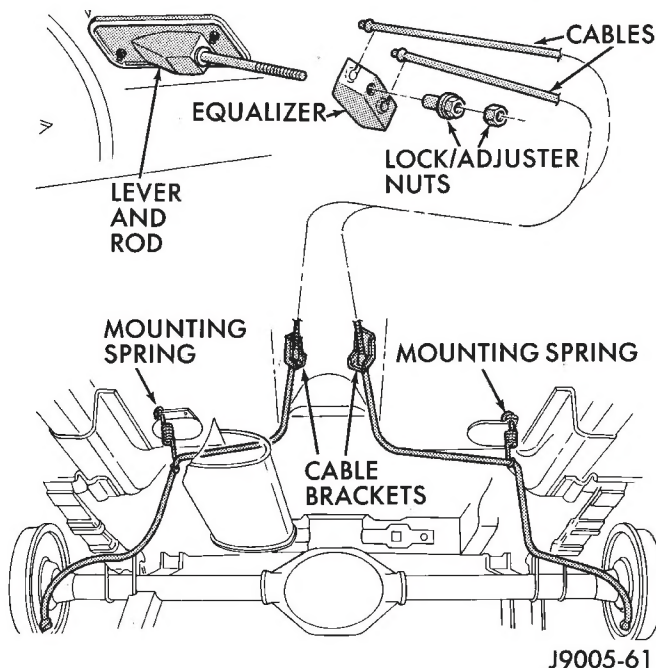
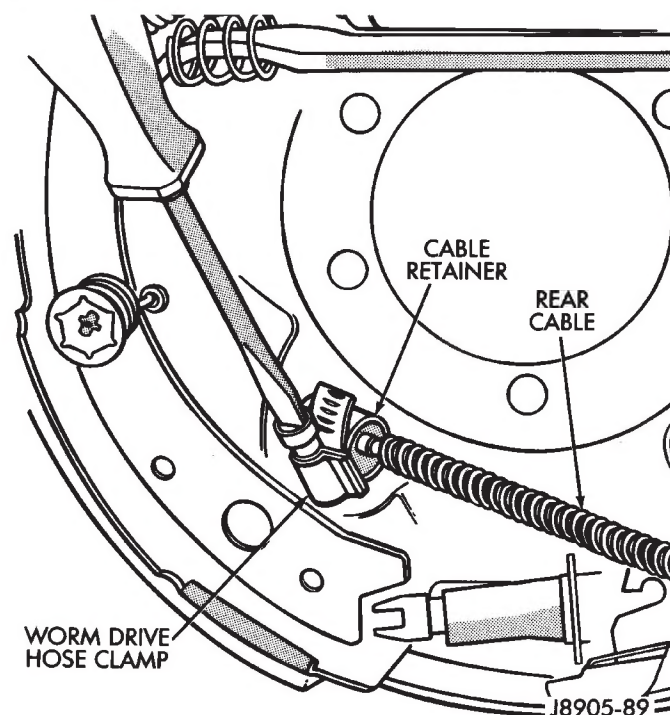
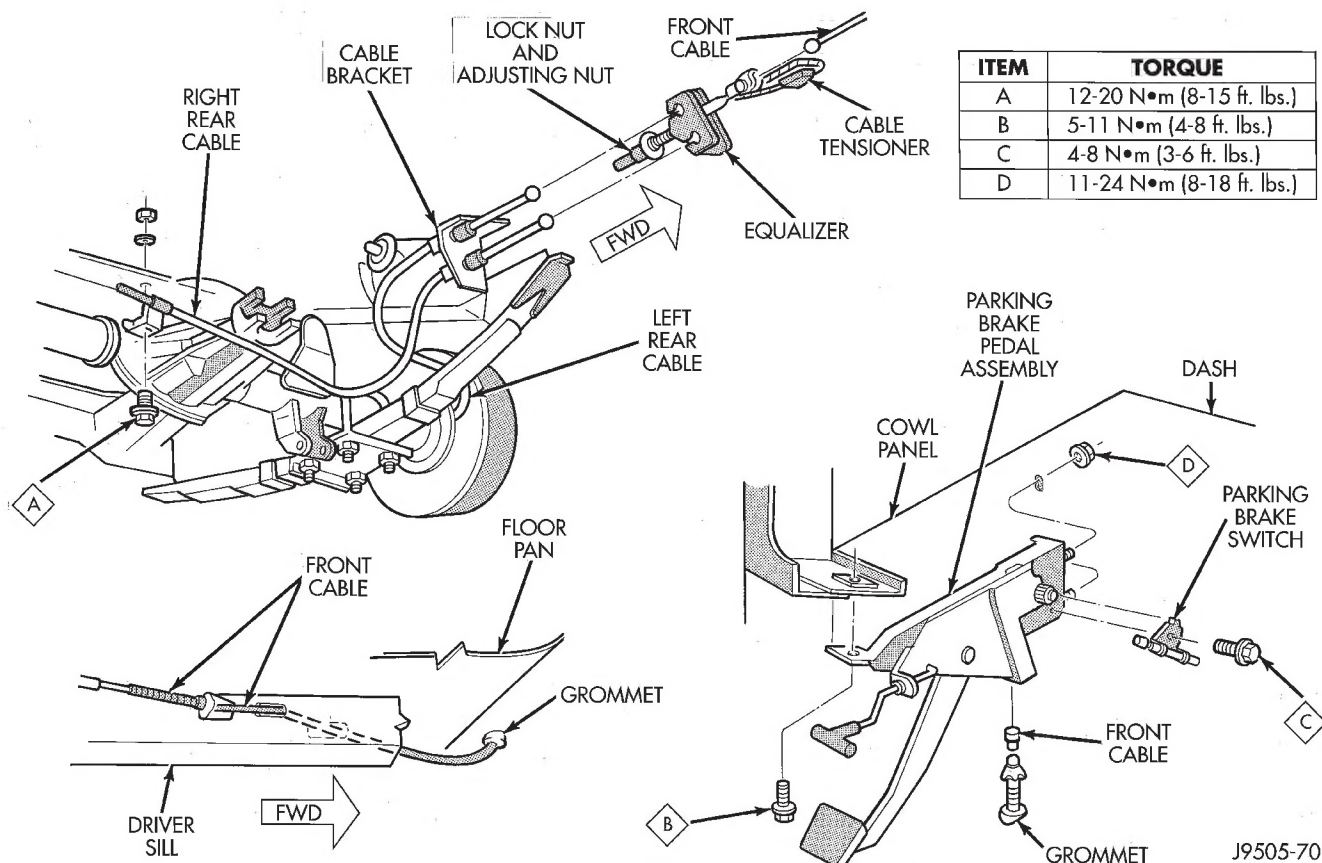

Fig. 15 Parking Brake Cables (XJ)
Fig. 16 Compressing Rear Cable Retainer
Fig. 17 Parking Brake Components (YJ)
- (1) Raise vehicle and loosen equalizer nuts until rear cables are slack.
- (2) Disengage cable from equalizer and remove cable clip and spring (Fig. 15).
- (3) Remove rear wheel and brake drum.
- (4) Remove secondary brakeshoe and disconnect cable from lever on brakeshoe.
- (5) Compress cable retainer with worm drive hose clamp (Fig. 16) and remove cable from backing plate.
- (6) Install new cable in backing plate. Be sure cable retainer is seated.
- (7) Attach cable to lever on brakeshoe and install brakeshoe on backing plate.
- (8) Adjust brakeshoes to drum with brake gauge.
- (9) Install brake drum and wheel.
- (10) Engage cable in equalizer and install equalizer nuts (Fig. 15).
- (11) Adjust parking brakes. Refer to procedure in this section.
- (1) Raise vehicle.
- (2) Remove equalizer nuts (Fig. 17).
- (3) Remove front cable from equalizer (Fig. 17).
- (4) Remove cable-to-frame bracket clip.
- (5) Lower vehicle.
- (6) Move front carpeting away from pedal.
- (7) Compress clip securing cable to pedal frame (Fig. 17). Use hose clamp to compress clip.
- (8) Disconnect cable from pedal retainer and remove cable.
- (9) Remove grommet (Fig. 17) from old cable and transfer it to new cable, if necessary.
- (10) Install new cable in floorpan and connect it to pedal assembly.
- (11) Seat cable grommet in floorpan.
- (12) Raise the vehicle.
- (13) Install cable-to-frame retaining clip.
- (14) Insert cable in equalizer and install equalizer washer and nuts.
- (15) Adjust parking brakes as described in Service Adjustment section.
- (1) Raise vehicle and loosen equalizer nuts (Fig. 17).
- (2) Remove damp and cotter pin attaching rear cable to equalizer and remove cable.
- (3) Remove cable clips.
- (4) Remove rear wheel and brake drum.